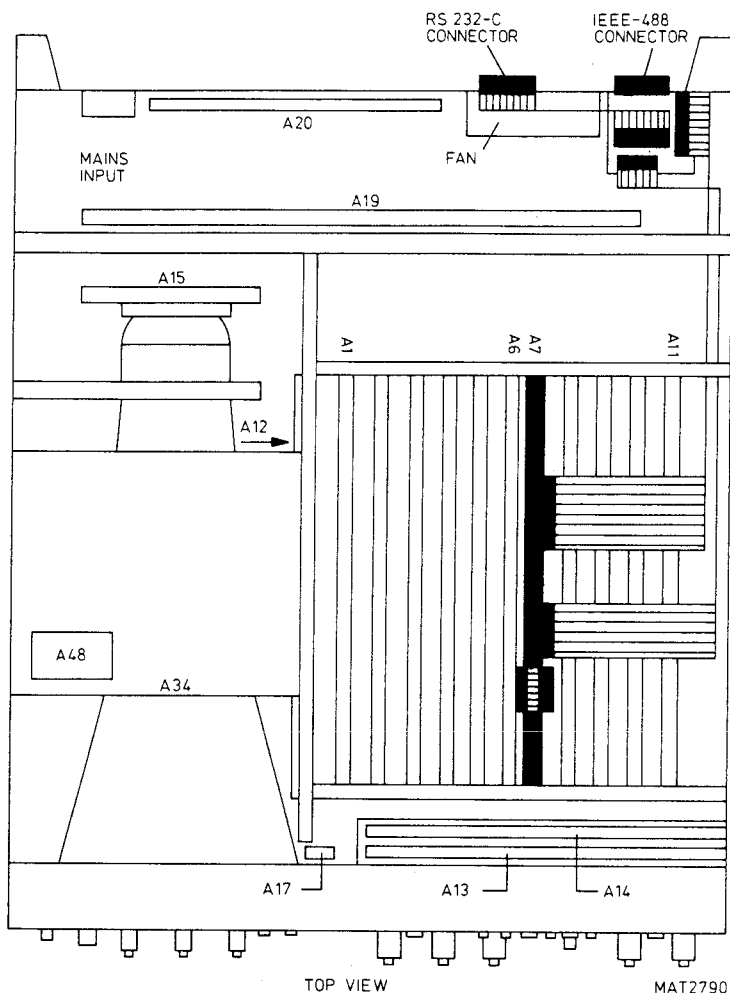

Figure 2.3 Installation of boards and cables.
For installation of the printed circuit boards and the cables see also figure 2.3.
- Connect the flat cable to the small P.C.B. at the IEEE-488 connector, according to figure 2.3.
- Install and connect the remaining two long flatcables according to figure 2.3. The cables should be led through the left hole of the transversal partition plate.